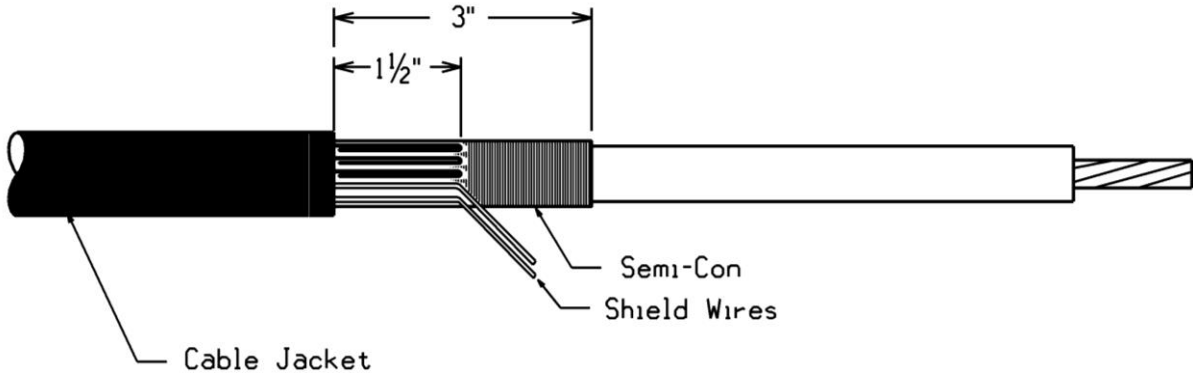

Figure 11
3. Bend the leading 1½ inches of exposed shield wires back upon themselves with the end of each wire close to the cut edge of the cable jacket. See Figure 11.